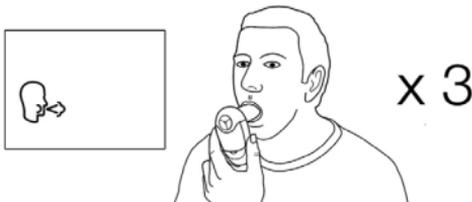

Figure 3. Holding device during test.
2. Turn the device on. ①
4. When the device is ready for a test () , holding the head high, breathe in as deeply as possible, hold the Vitalograph Lung Monitor ready in front of the mouth, see Figure 3.